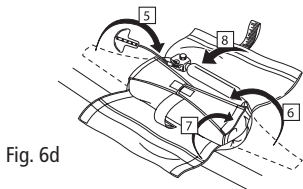
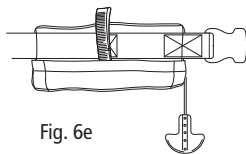

Fig. 6d
Fig. 6e
- 4) Without twisting, fold the bladder over once and place into the center of the pouch between the two wings (Fig.6d). Ensure the yellow inflator pulltab is positioned so it hangs out from the upper left hand corner (above left side wing).
- 5) Fold both side wings on top of the bladder and secure wingtips together with Velcro™ at ends. (Fig.6d)
- 6) Fold the lower flap up and secure both side edges to wings with Velcro™. (Fig.6d)
- 7) Fold the upper flap down onto the lower flap and secure with the Velcro™ running across the width of the pouch (Fig.6d). Ensure the yellow inflator pulltab is still hanging out of the upper left corner (lower right corner when donned as in Fig.6e).